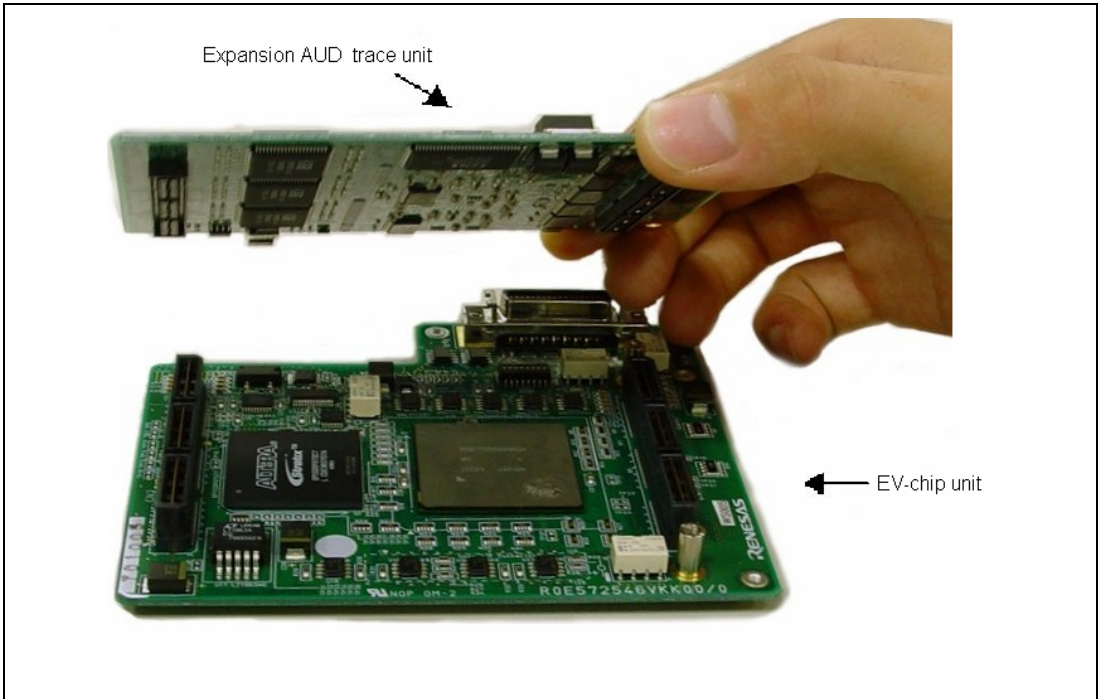

Figure 2.3 Connecting the Expansion AUD Trace Unit to the EV-chip Unit
- When the expansion AUD trace unit is used with the EV-chip unit, connect the expansion AUD trace unit to the EV-chip unit as shown in figure 2.3.